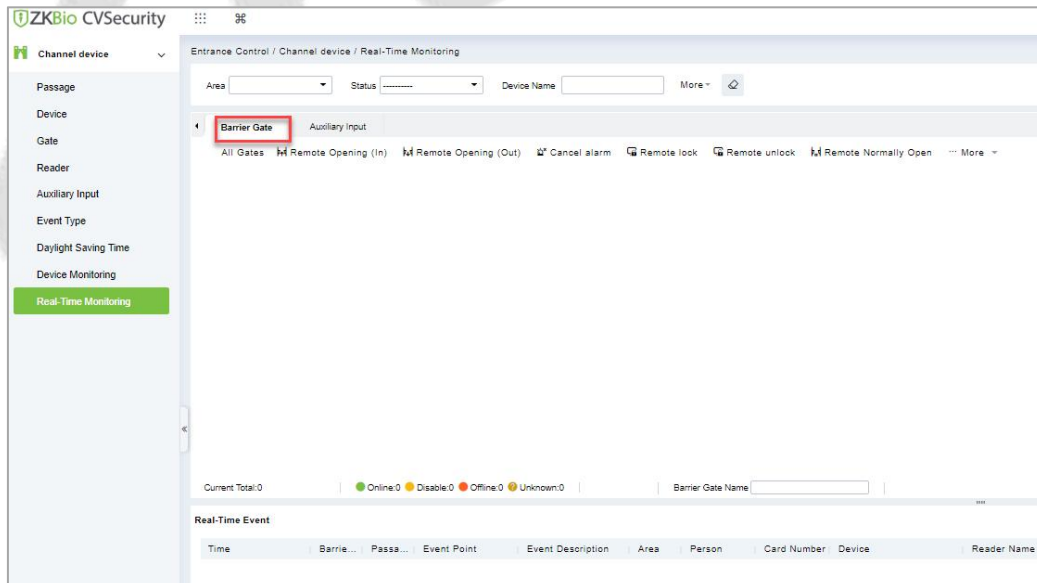

Figure 12-26 Barrier Gate Option in Real-Time Monitoring Interface
Step 4: In the gate permission group interface, click **Add Barrier Gate** icon  on the right side of the created gate permission group, and the interface of selecting Add Gate will pop up, and the corresponding gate will be added according to the requirements, as shown in Figure 12-26